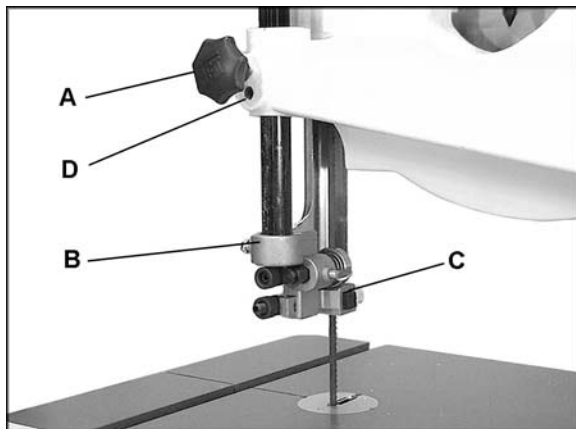

Figure 30
2. Loosen lock knob (A, Figure 30) and raise or lower upper blade guide assembly (B, Figure 30) to just above the material being cut.
3. Tighten lock knob. Make sure blade guide blocks (C, Figure 30) are still flat to the blade. If adjustment is necessary, loosen lock knob (A, Figure 30) and rotate assembly until guide blocks are flat to blade.
4. If movement of the blade guide assembly seems "stiff" when being raised or lowered, it can be adjusted to slide more easily. This is controlled by an internal spring and ball which provide varying degrees of resistance against the guide post. Use the set screw (D, Figure 30) to adjust the tension of this spring. To adjust tension on the spring, loosen knob (A, Figure 30), use a hex wrench to tighten or loosen set screw (D, Figure 30) until desired tension is reached, then re-tighten knob (A, Figure 30).